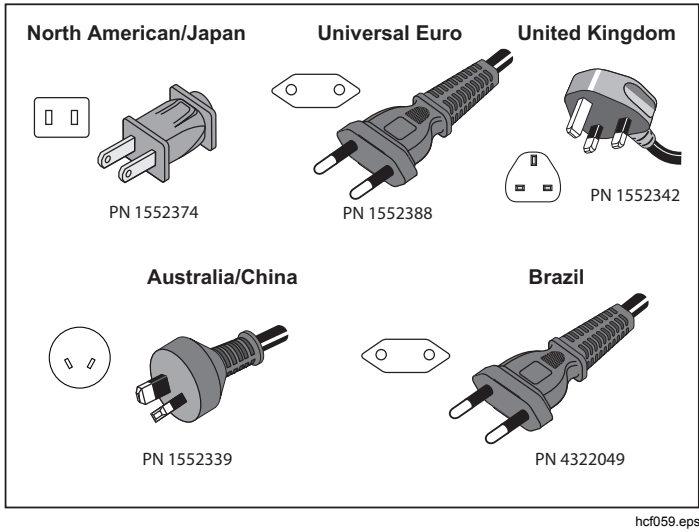

Figure 1. Country-Specific Mains Cords
- Power Cord (see Figure 1)
- The power cord and input connector decal are country-specific and vary according to the order destination. See Figure 1.